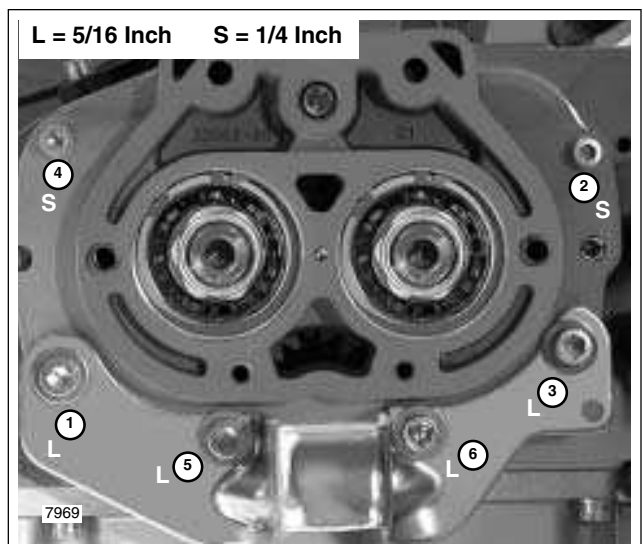

Figure 7-40. Side Door Screw Size and Torque Sequence
4. Resetting the torque wrench as necessary, tighten the four 5/16 inch screws to 13-16 ft-lbs (18-22 Nm) and the two 1/4 inch screws to 84-108 in-lbs (9-12 Nm) in the sequence shown in Figure 7-40.